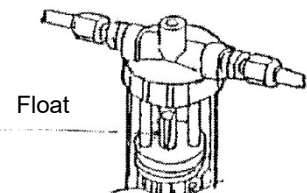

Figure 3
- (4) Open the supply side of compressed air.
- (5) Turn the compact regulator adjusting knob slowly to the HIGH side (clockwise) until the float of the MC filter with flow monitor makes contact with the upper stopper and stops, and then move the lock ring to the far side to lock the adjusting knob.
- (6) Slowly turn the needle valve clockwise until the float of the MC filter with flow monitor makes contact with the upper stopper and moves up and down by one to two millimeters. (Figure 3)